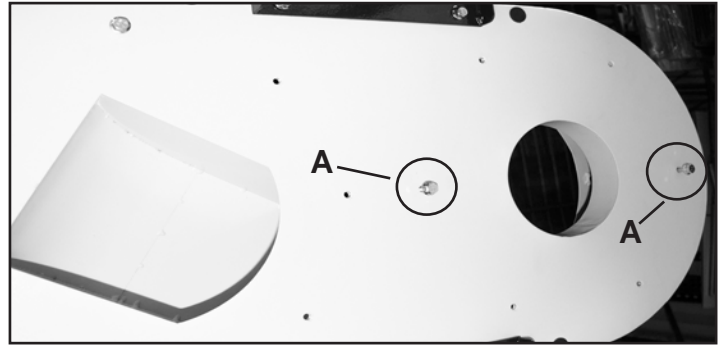

FIG. 17
1. Install two M8X16 Hex Head Flange Bolts to the underside of the Dust Plenum as shown, A-Fig. 17. Leave the bolts loose at this time, providing a 1/4" space between the head of the bolt and body of the Dust Plenum.